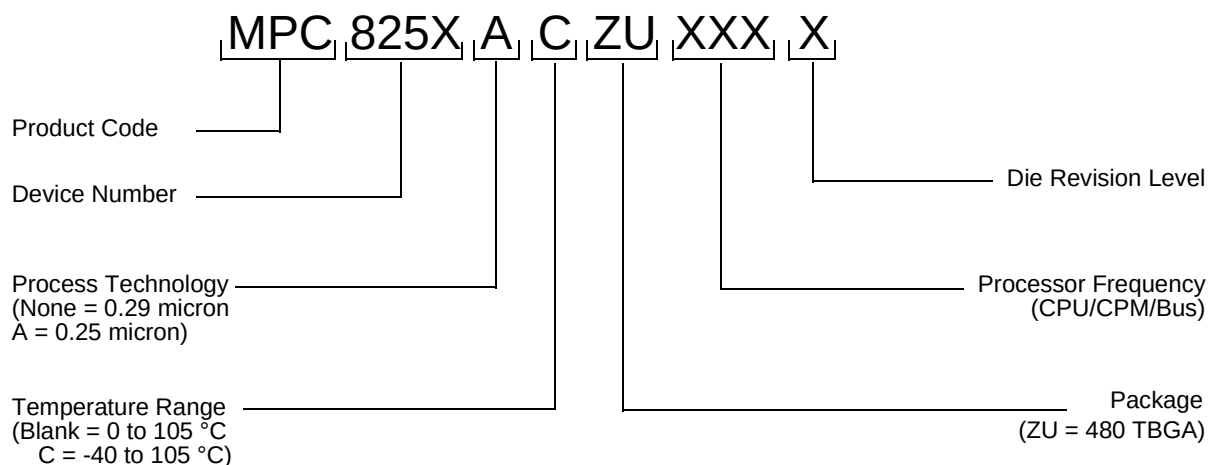

Figure 15. Motorola Part Number Key
Figure 15 provides an example of the Motorola part numbering nomenclature for the MPC8255. In addition to the processor frequency, the part numbering scheme also consists of a part modifier that indicates any enhancement(s) in the part from the original production design. Each part number also contains a revision code that refers to the die mask revision number and is specified in the part numbering scheme for identification purposes only. For more information, contact your local Motorola sales office.
0.1	- Note 2 for Table 4 (changes in italics): "...greater than or equal to 266 MHz, 200 MHz CPM..." - Updated Figure 15 - Table 14: footnotes added to pins at AE11, AF25, U5, and V4.